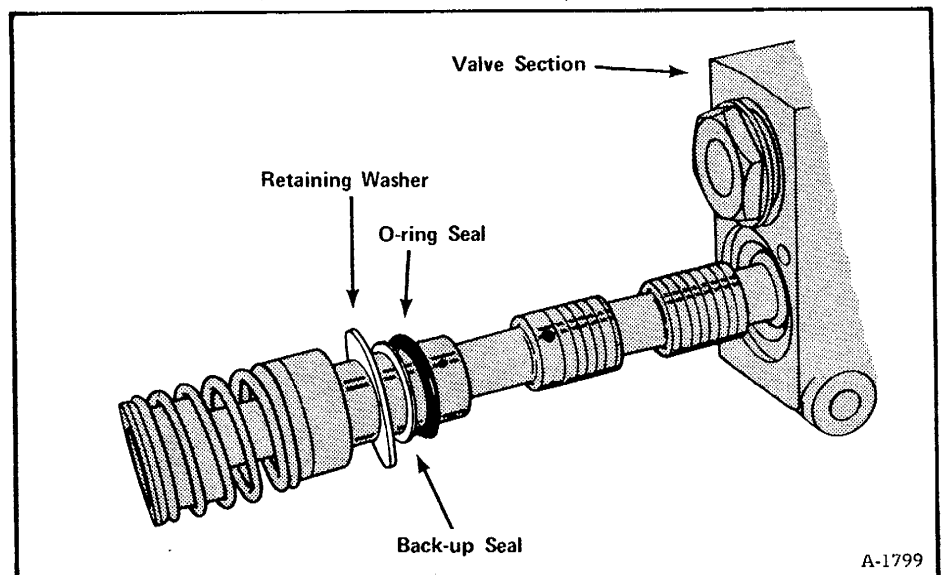
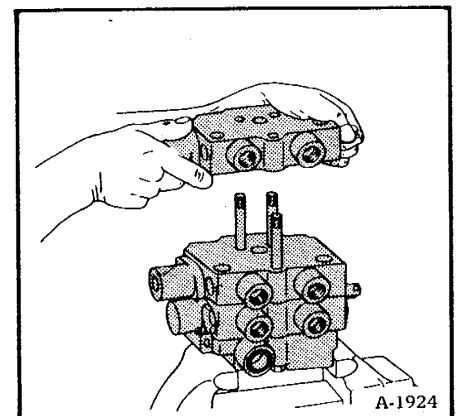

Fig. 2-28 Installing Valve Spools with Seals
Fig. 2-29 Reassembly of Valve
- (1) Inspect the spool and spool bore for damage and wear. Replacement of the spool or valve body cannot be made separately. If either is worn or damaged, complete replacement of the control valve section must be made.
- (2) Make lubrication of the parts with oil and install in the valve body section.
**NOTE:** Install the rear O-ring seals and seal retainer on the spool before installing it in the valve section. Push the spool into the rear of the valve section (Fig. 2-28).
- (3) Make lubrication of new O-rings with oil and press them into the seal grooves at each end of the valve section.
- (4) Install the bonnet at the rear of the valve section (On lift section, install the snap ring on the detent rod.)
- (5) Install the seal plate at the front end of the valve section.
- (6) Install the load check valve parts, springs and hex plugs. Use new O-rings, lubrication made with oil, on the plugs.
- (7) Install new O-rings into the counter bores on the sides of the valve sections.
- (8) To help in assembly of all the valve sections, put the control valve inlet section on its side in a vise, so that the sections can be installed in their order of assembly (Fig. 2-29).
- (9) After all the control valve sections have been assembled, install the thru bolts and the nuts. Tighten the nuts, evenly, to 20 ft.-lbs. (27.2 Nm) torque. Do not overtighten.
- (10) With the control valve in a vise, check the operation of each spool for free movement and centering.